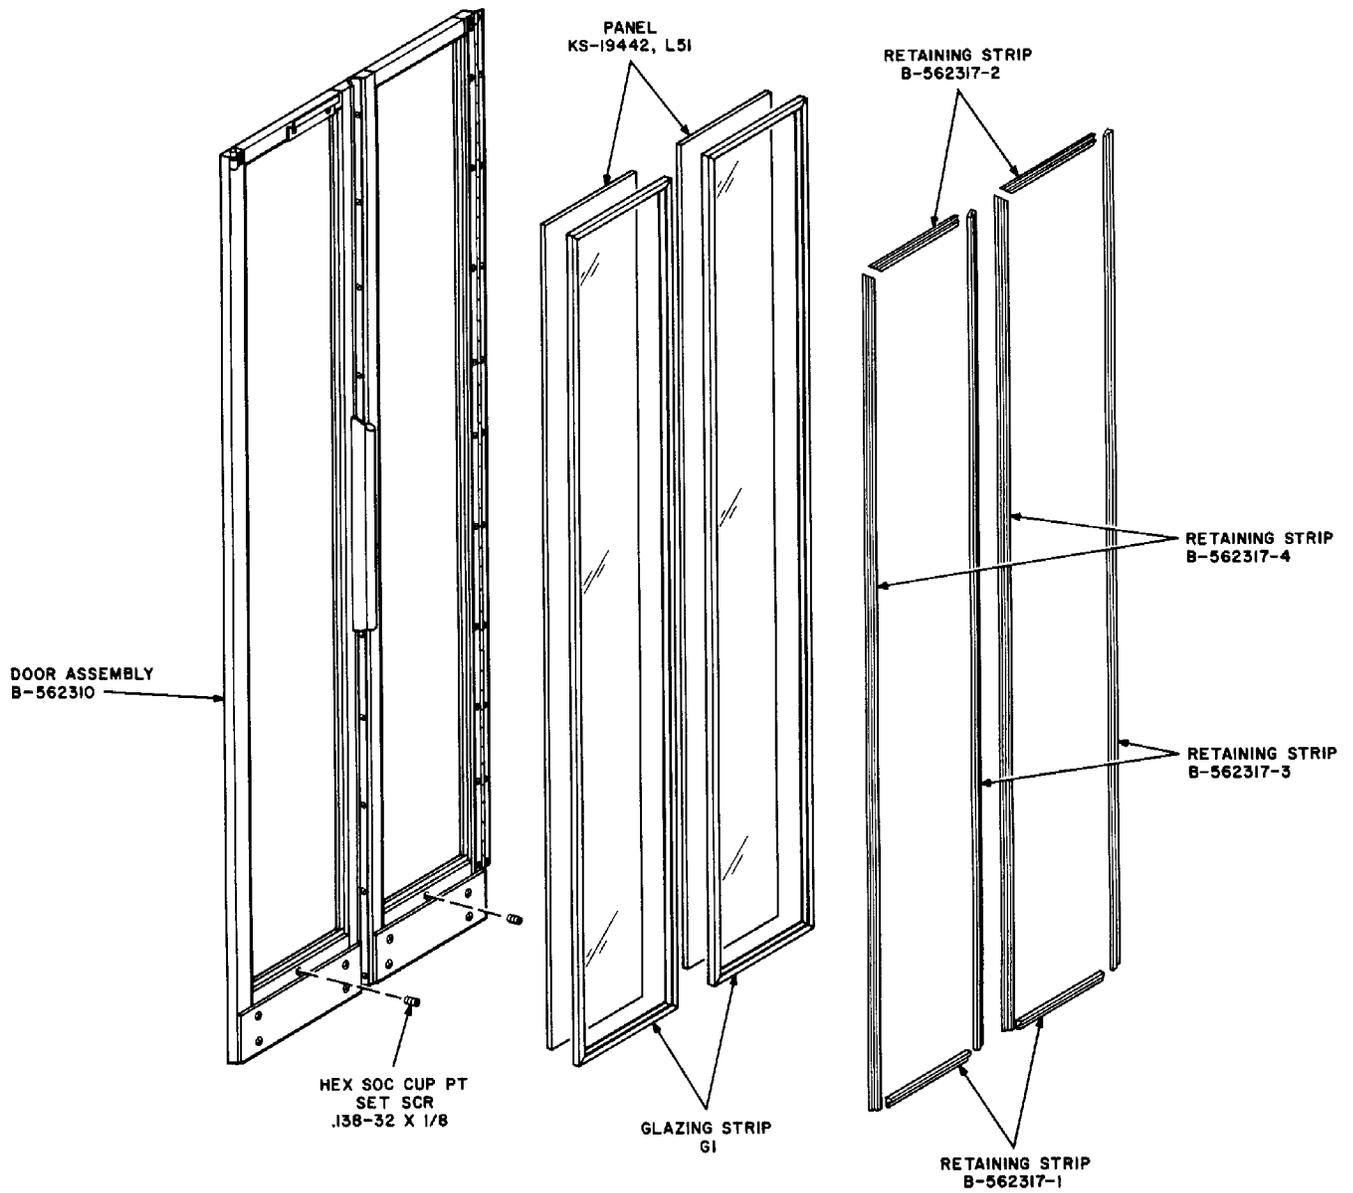

Fig. 17 — Installation of Glass Panels in Door
1. Apply glazing strips to glass panels as follows and install the panels in positions indicated. See Fig. 17 for installing door panels. Side and rear panels are similarly installed.
2. Insert B-562317-2 retaining strips along the top of door panels (Fig. 17).
1. Apply glazing strips to glass panels as follows and install panels in positions indicated. See Fig. 17 for installing door panels. Rear panels are similarly installed.